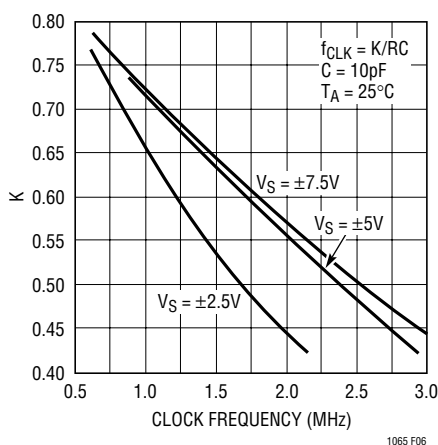

Figure 6.  $f_{CLK}$  vs K
For a limited temperature range, the internal oscillator of the LTC1065 can be used to generate clock frequencies above 500kHz (Figures 6 and 7). The data of Figure 6 is derived from several devices. For a given external (RC) value, the observed device-to-device clock frequency variation was  $\pm 1\%$  ( $V_S = \pm 5\text{V}$ ), and  $\pm 1.25\%$  for  $V_S = \pm 2.5\text{V}$ .
from Figure 6,  $K = 0.575$ ,